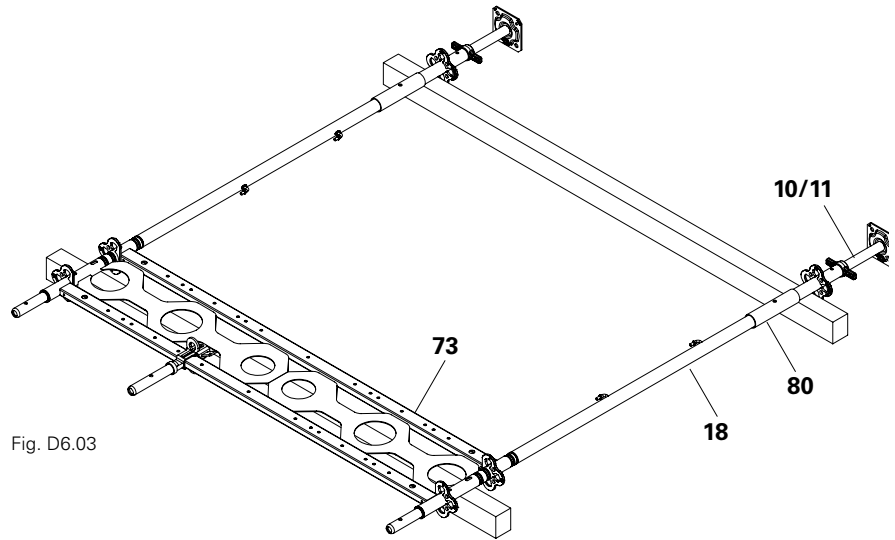

Fig. D6.03
- Spindle out Base Spindles UJB 38-50/30 (10) sufficiently so as to realise the required clear passage height.
- Connect base spindle to Base Standard UVB 25 (80), Tube EVR 150 (18) and the prepared Multi Girder ELM.
- Fit additional frame columns. (Fig. D6.03)